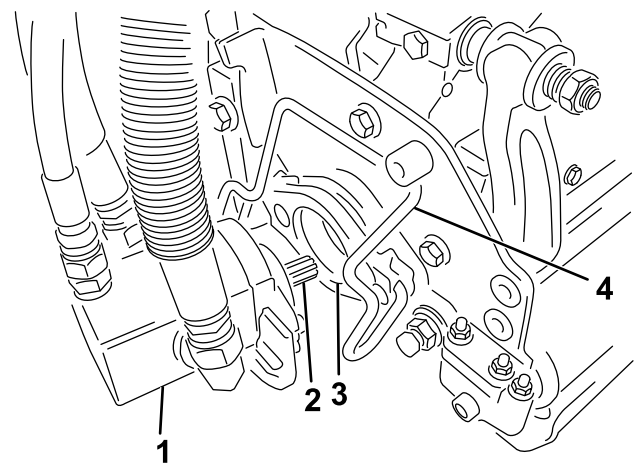

Figure 50
5. Coat the spline shaft of the cutting unit motor with clean grease (Figure 50).
6. Insert the motor into the left side of the cutting unit (as viewed from the operator's position) and pull the motor retaining bar on the cutting unit toward the motor until you hear a click from both sides of the motor (Figure 50).